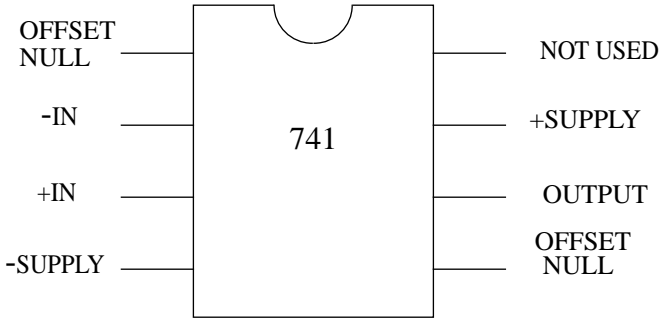

Figure 3: pin assignments for the 741 op-amp.
- (4-4) Following your design from Pre-Lab Exercise 4-3, construct the digital-to-analog converter using a 741 op-amp. Figure 3 shows the pin assignments for the 741 op-amp. Do not neglect to connect  $\pm 15$  V to the op amp! Do not yet connect the converter data-bit inputs to the data-bit outputs from the memory. Rather, adjust the offset voltage  $v_{OFF}$  to 0 V,